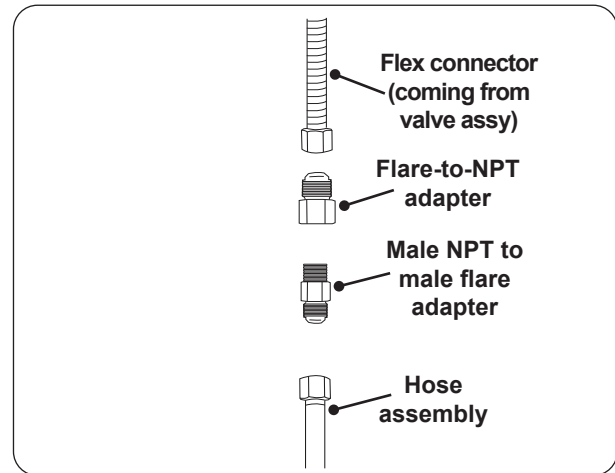

Fig. 34-1 Connecting flex to hose assy
1. Connect the L.P. regulator hose assembly to the flex connector that is coming off of the valve assembly (see Fig. 34-1).